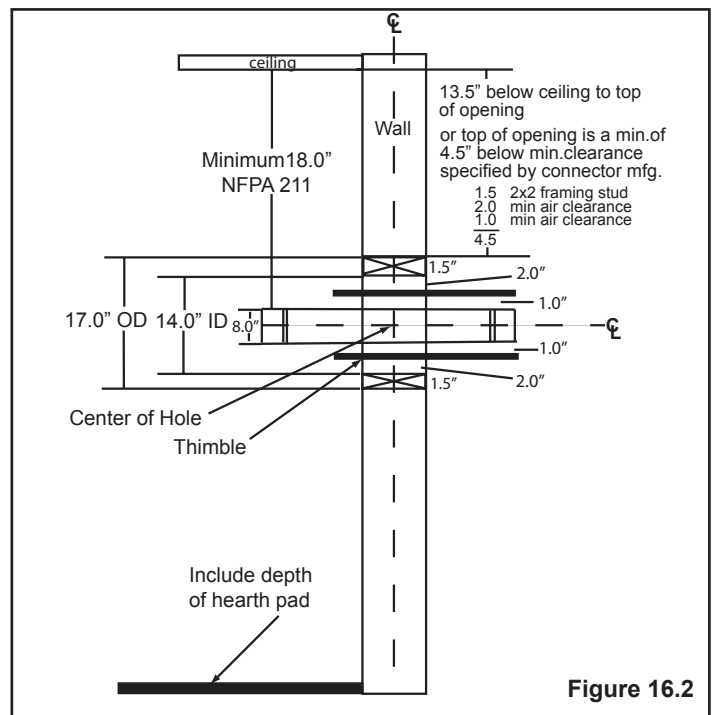

Figure 16.2
- Top of wall opening is a minimum of 13-1/2 inches (343mm) from ceiling or 4-1/2 inches (114mm) below minimum clearance specified by chimney connector manufacturer. NFPA 211 minimum vertical clearance of 18 inches (457mm) from chimney connector and ceiling or minimum recommended by chimney connector manufacturer. **Figure 16.2**
1. Open inside wall at proper height for the chimney connector to entry the masonry chimney. **Figure 16.2**
3. Construct a 17 inch x 17 inch (432mm x 432mm) outside dimension frame from 2 x 2 framing lumber to fit into wall opening. Inside opening of frame should be no less than 14 inch x 14 inch (356mm x 356mm). **Figure 16.2**